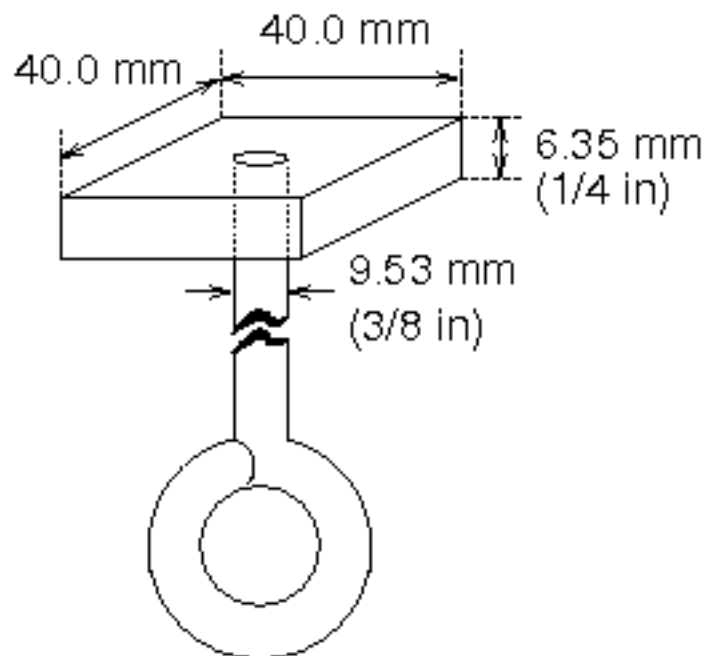

Figure 2. Loading Plate Detail
- The load will be applied by means of a 40. mm square plate that is 6.35 mm (1/4 inch) in thickness. A 9.53 mm (3/8 inch) diameter loading rod is attached from below to the center of the plate (see Figure 2). The plate will be horizontal, it will not pivot on the loading rod, and the sides of the plate will be parallel to the longitudinal axis of the bridge.